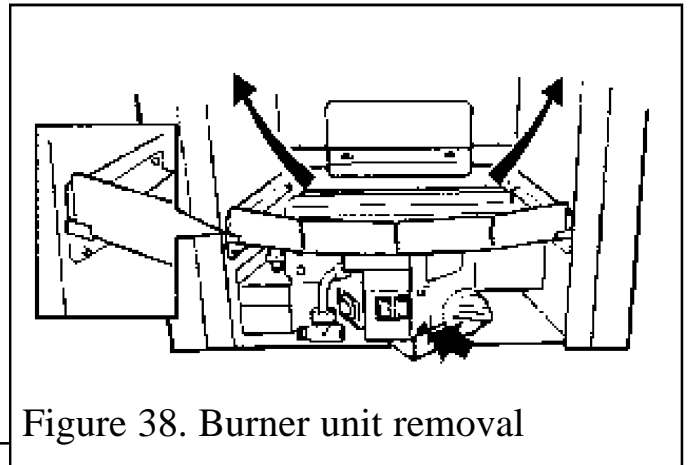

Figure 38. Burner unit removal
- Detach the burner unit from the firebox, by removing the support bracket fixing screw at the lower front region of the burner unit (See figure 38). Carefully lift the burner unit forward making sure that the unit does not snag on any leads. Rest the burner on its front face to allow access to the pilot and gas tap.